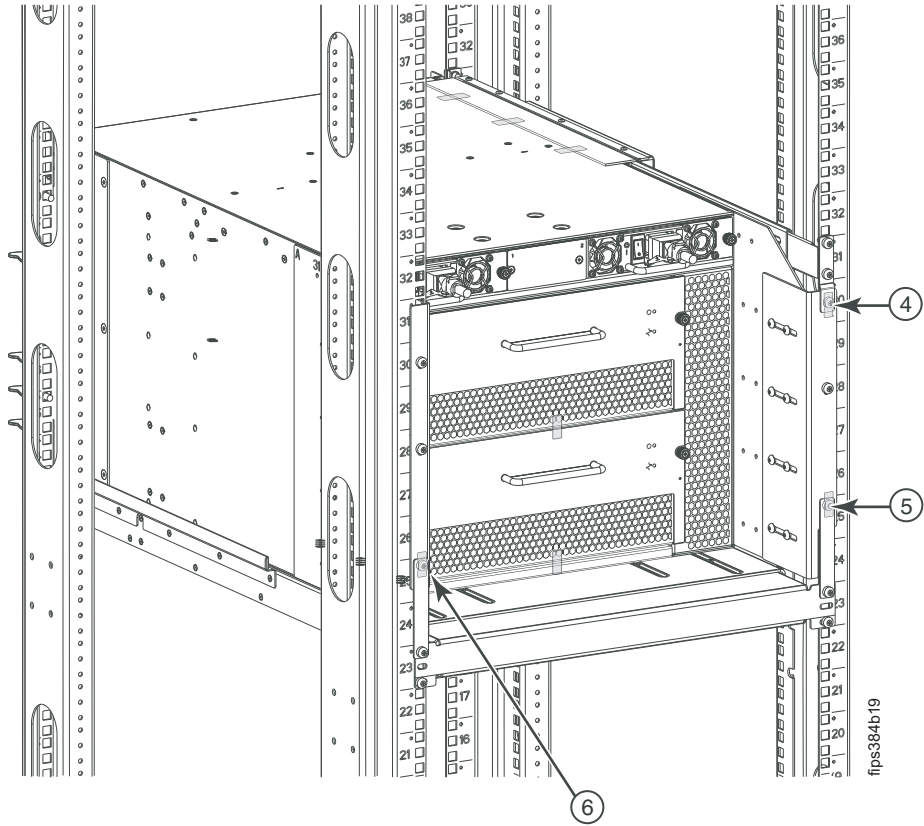

Figure 25. Three FIPS seals applied to the FIPS bracket screws on non-port side of the rackmounted 2499-192
5. Apply one seal **4** mounted vertically to the upper right FIPS bracket screw, one seal **5** to the lower right FIPS bracket screw, and one seal **6** to the lower left FIPS bracket screw, as shown in Figure 25 on page 24. Ensure that each seal is firmly affixed.